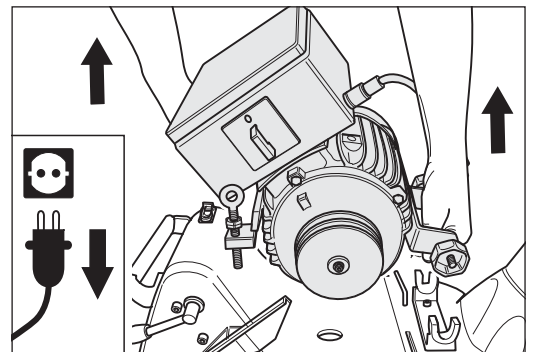

Fig. 29 Remove the motor from the machine housing. **Similar to figure.**
- 10 Remove the motor from the machine housing (Fig. 29) and secure it during transport against slipping and damage!